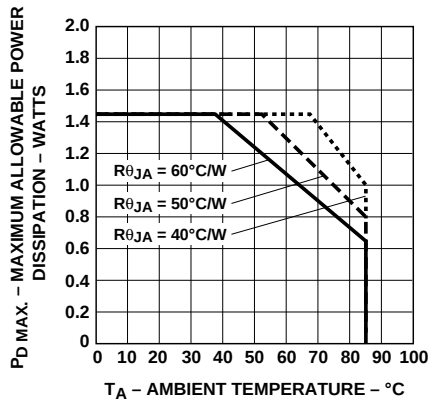

Figure 2. Maximum Allowable Power Dissipation vs. Temperature.
- The HDSP-2301/-2302/-2303 should be derated linearly above 37°C at $16.7\text{ mW}/^{\circ}\text{C}$. This derating is based on a device mounted in a socket having a thermal resistance from case to ambient at 35°C/W per device. See Figure 2 for power deratings based on a lower thermal resistance.
The HDSP-2301/-2302/-2303 are available in standard ceramic dual-in-line packages. They are designed for plugging into sockets or soldering into PC boards. The packages may be horizontally or vertically stacked for character arrays of any desired size. The HDSP-2301/-2302/-2303 utilize a high output current IC to provide excellent readability in bright ambient lighting. Full power operation ($V_{CC} = 5.25 \text{ V}$, $V_B = 2.4 \text{ V}$, $V_{COL} = 3.5 \text{ V}$) with worst case thermal resistance from IC junction to ambient of $60^\circ\text{C}/\text{watt}/\text{device}$ is possible up to ambient temperature of 37°C . For operation above 37°C , the maximum device dissipation should be derated linearly at $16.7 \text{ mW}/^\circ\text{C}$ (see Figure 2). With an improved thermal design, operation at higher ambient temperatures without derating is possible.